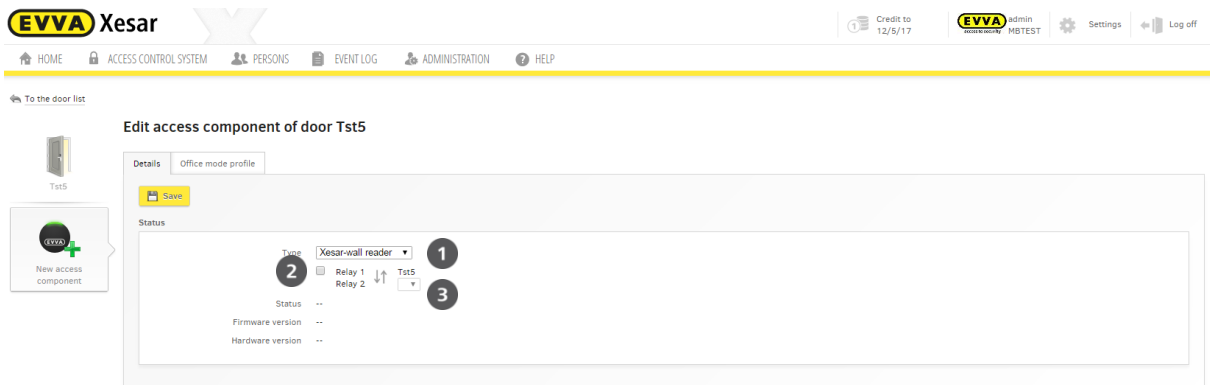

Figure 86: Connecting Xesar wall readers
- **Relay 1 ❶** (Figure 86: Connecting Xesar wall readers) is automatically assigned to the wall reader.
- Click **New access component ❸** and select the Xesar wall reader from the drop-down list after having created the second door.
- Tick the check box as shown in **❷** (Figure 86: Connecting Xesar wall readers).
- Select a different, newly created door from the drop-down list in the **❷** section. This automatically assigns a second wall reader to the selected door and the wall reader icon changes from  (icon-> one wall reader) to  (icon -> two Xesar wall readers).